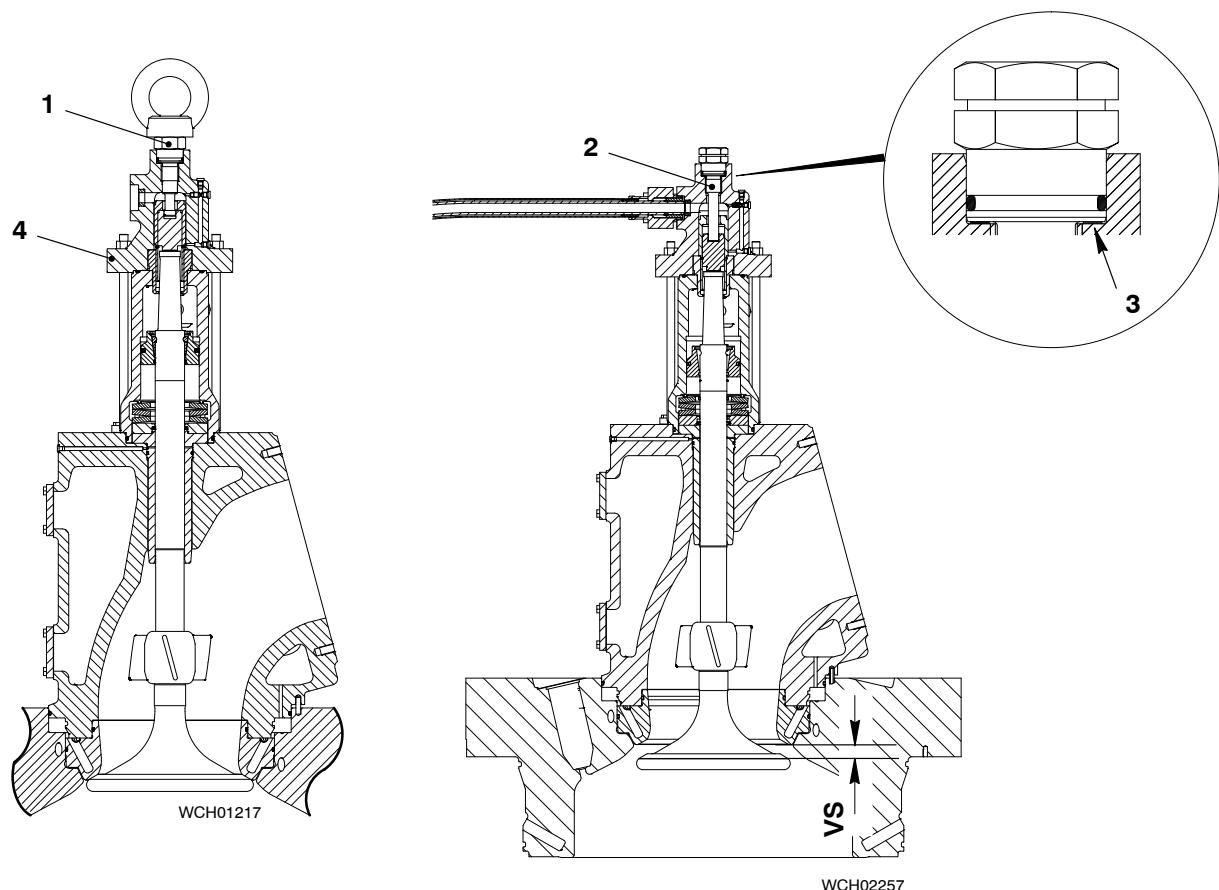

Fig. 2: Exhaust Valve / Pressure Element
- 4) Remove the pressure element (2, Fig. 2). Make sure that you do not lose the shim(s) (3).
- 5) Apply a thin layer of oil to the thread of the damper (1).
- 6) Install the damper (1).